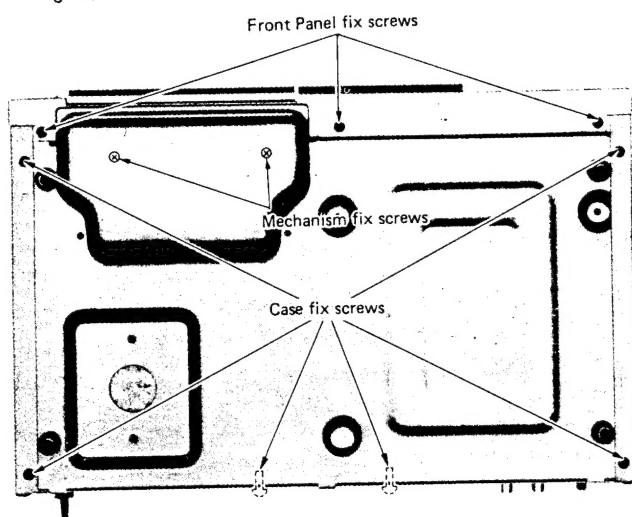
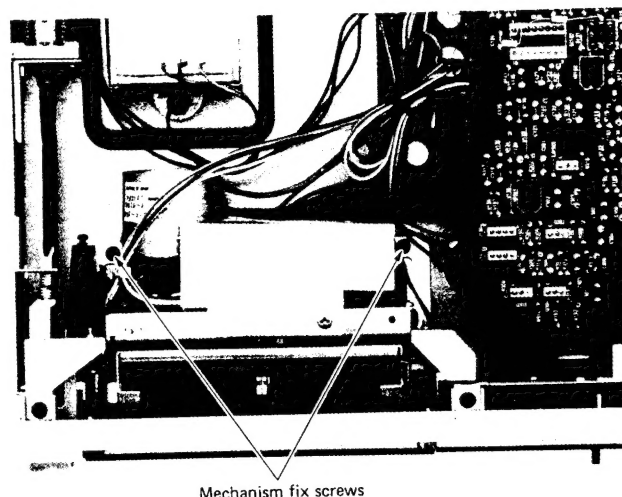

Fig. 1
Fig. 3
- 1) Remove six screws (SCREW-METAL 3 x 8) fixing the case and slide the case backward for removal. (See Fig. 1)
- 3) Remove front panel fixing screws (two 2-3 x 8 on the top, one 2-3 x 6 on the top and three 2-3 x 6 on the bottom). Front panel can be removed together with the SWITCH PC board. (See Figs. 1 and 2)
- 3) Remove five screws (2-3 x 6) fixing the mechanism assembly. (See Figs. 3 and 4) (Fig. 1)